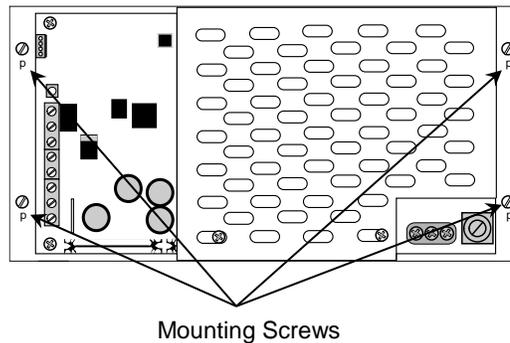

Figure 28 - NX-EM-PSU6 Power Supply Charger Module
If replacing the NX-EM-PSU-6 power supply charger remove power (AC and battery) from the system. Remove the AC, battery, 24 VDC output and relay trouble contact wiring from the NX-EM-PSU-6. Remove the four (4) screws [p] securing the NX-EM-PSU-6 to the back box and remove the NX-EM-PSU-6 (see figure 28). Position the new NX-EM-PSU-6 module onto the back box standoffs and secure with the four (4) removed screws [p]. Replace the removed AC, battery, 24 VDC output and relay trouble contact wiring and reconnect AC and battery power to the system.